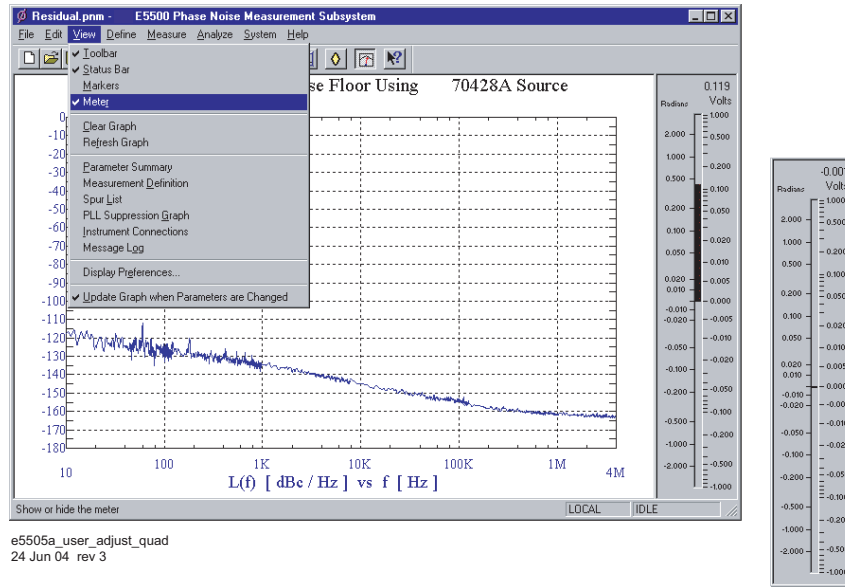

Figure 151 Adjust for quadrature
- 7 After you complete the measurement set up procedures and begin running the measurement, the computer will prompt you to adjust for quadrature (Figure 151 on page 220). Adjust the phase difference at the phase detector to 90 degrees (quadrature) by either adjusting the test frequency or by adjusting an optional variable phase shifter or line stretcher. Quadrature is attained when the meter is set to center scale, zero.